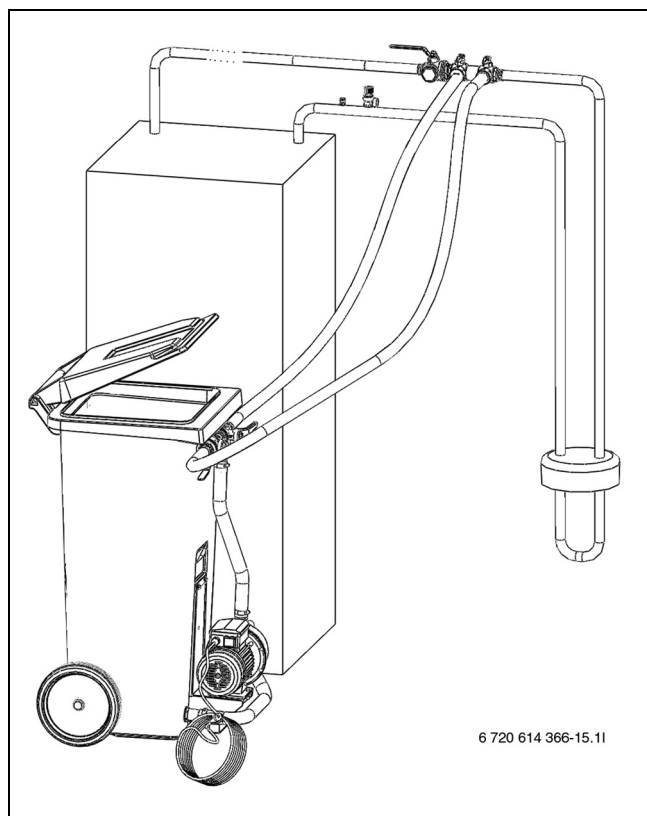

Fig. 16 Filling with filling station
- ▶ Connect two hoses from the filling station to the filling unit (→ Figure 16).